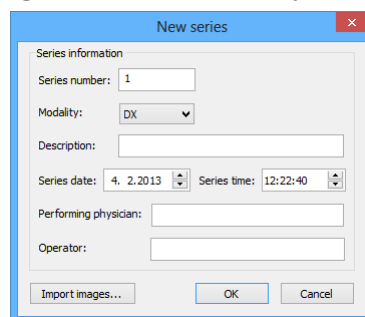

Figure 361 – New series dialog
3. Fill the information concerning the new series into the **New series** dialog (see Figure 361) and click the **OK** button.
3. Fill the information concerning the new series into the **New series** dialog (see Figure 361).